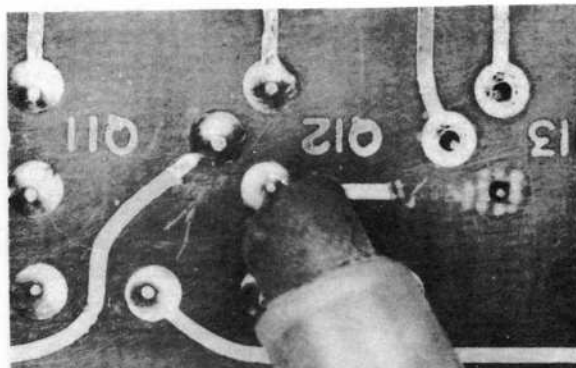

FIGURE 6. CLEANING CONDUCTOR
STEP 4—Clean the remaining conductor where the TRAK-PAD will overlap with a PACE Abrasive Stick and then with PACE Solvent. Pre-tin $\frac{1}{8}$ " to $\frac{1}{4}$ " of conductor using .010 or .015 rosin core solder (see Figure 6). Remove all flux residue with PACE Solvent.